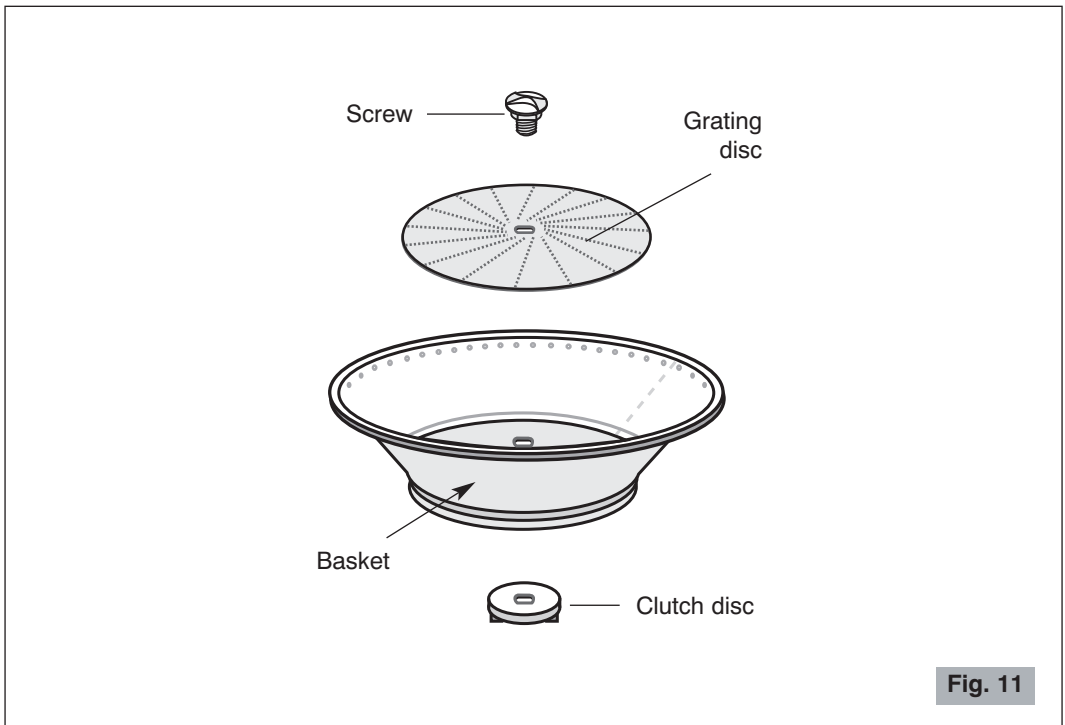

Fig. 11
- **For a periodic deep-cleaning** you can disassemble the parts of the basket by unscrewing the clutch disc (Fig. 11).
- Reassemble in reverse order (Fig. 11) making sure that the parts are tightly attached to one another.